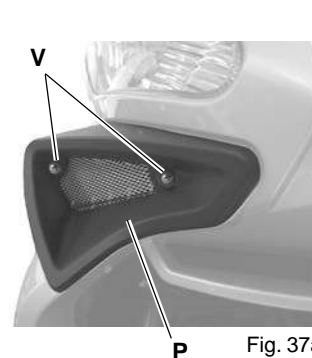

Fig. 37a
- Remove the front air intake (P – Fig. 37a) by loosening the 2 fixing screws (V – Fig. 37a) of the light to adjust.